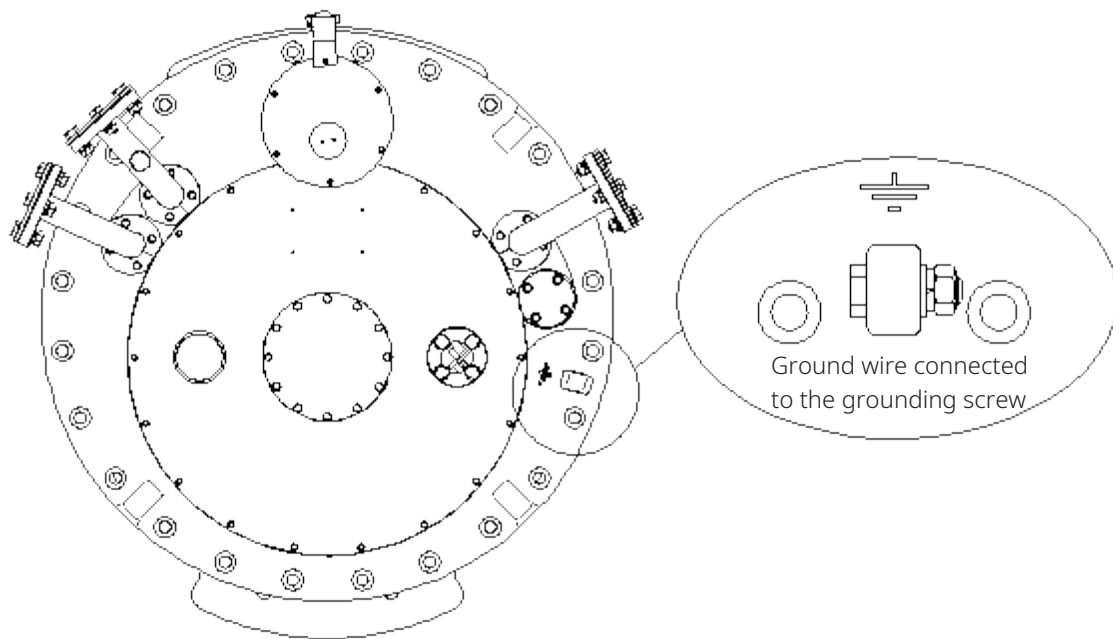

Figure 9-3 Connecting the Ground Wire to the Grounding Screw
1. Connect the grounding screw on the OLTC mounting flange to the transformer cover using the provided M12 bolt and nut (19mm wrench, see Figure 9-3).